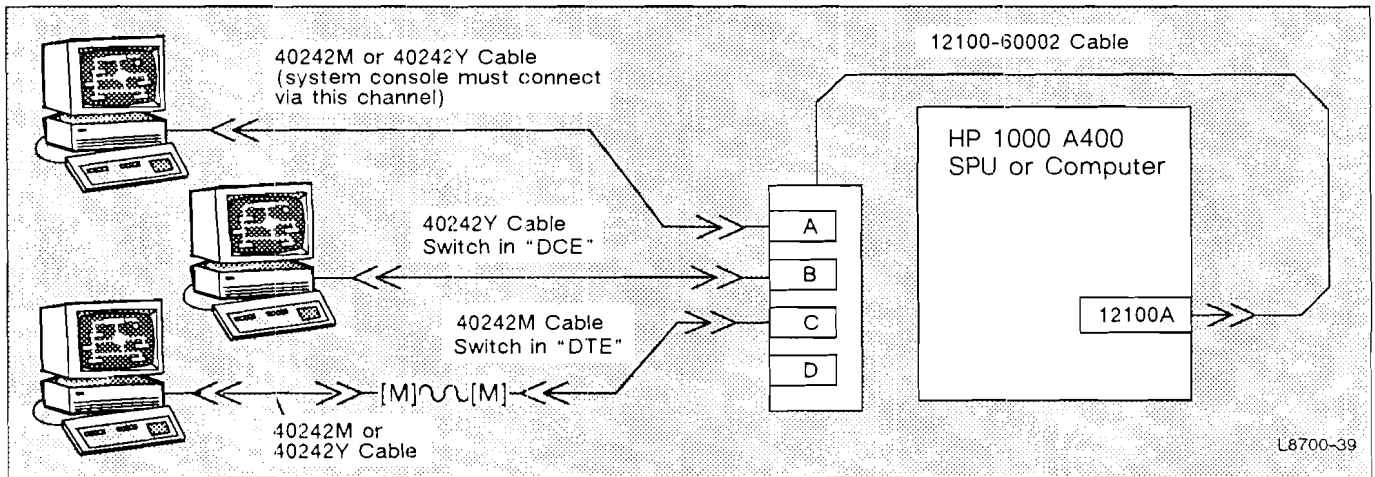

Figure 30. Console/Terminal Connection via A400 Four-Port On-Board I/O Multiplexer
1. The on-board multiplexer on the 12100A Single-Board Computer in all A400 systems can be used to connect the system console and three other multiplexer-connectable devices to the system via separately-ordered cables. See Figure 30, below.